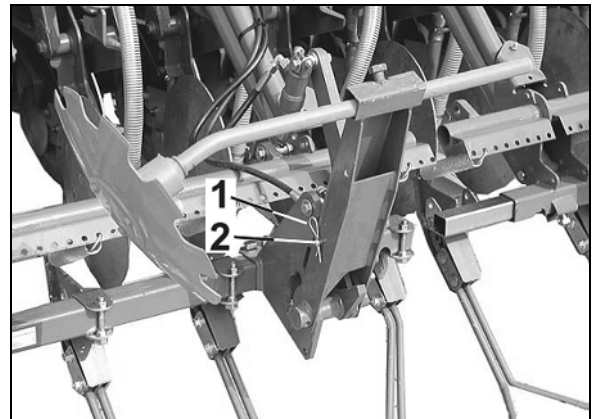

Fig. 49
2. Remove the pin (Fig. 49/1) which is secured with the aid of a lynch pin (Fig. 49/2).
2. lock using pin (Fig. 49/1) and secure with the aid of a lynch pin (Fig. 49/2)..